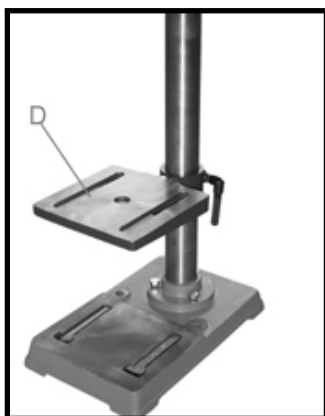

Fig. 5
2. Place the table (D) Fig. 5, on the drill press column (A) as shown.